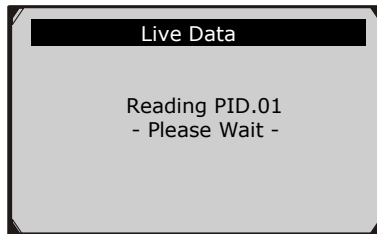

Figure 6.10
- 2) Wait a few seconds while the scan tool validates the PID MAP (Figure 6.10).